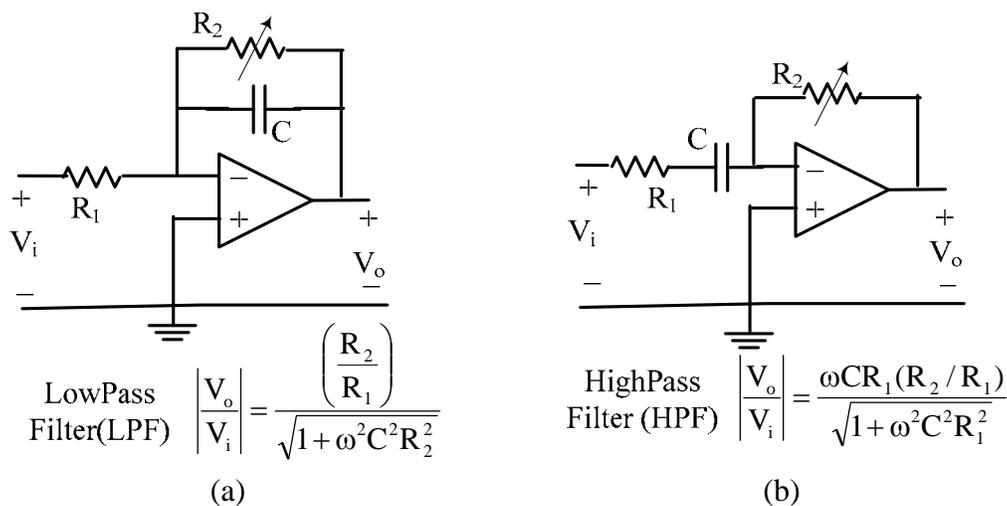

Figure 3.2
AC opamp circuits : The presence of a linear operating range (see Appendix-B) in opamp circuits is particularly evident when an AC (sinusoidal) input is used : As the input signal amplitude is increased, 'limiting' of the output voltage waveform can be clearly observed when displayed on an oscilloscope. An important AC application is in the area of 'electrical filters', which are circuits designed to obtain frequency-dependent gain characteristics which allow the transmission or rejection of certain frequency bands.. Opamp filter circuits generally incorporate RC networks as seen in the circuits shown in Figure 3.2 (a) & (b). The circuits shown are those of basic first-order 'low-pass' (LPF) and 'high-pass'(HPF) filters, which are used to 'filter out' high-frequencies and low frequencies, respectively.
8. Build the LPF circuit (with unity DC gain) shown in Figure 3.2 using the basic setup of Figure 3.5. The LPF circuit will result if the $0.1\mu\text{F}$ onboard capacitor is connected across the feedback resistor by simply adding the two links P and Q shown as dotted lines in Figure 3.5. Keeping the input to the LPF constant at 2 volt RMS, vary the frequency and record the RMS output voltage at 100, 200, 500, 1000, 5000 and 10,000 Hz. Use the data table to record the frequencies and voltages. [Use the 'RMS' & 'Frequency' measurement functions on the DSO].